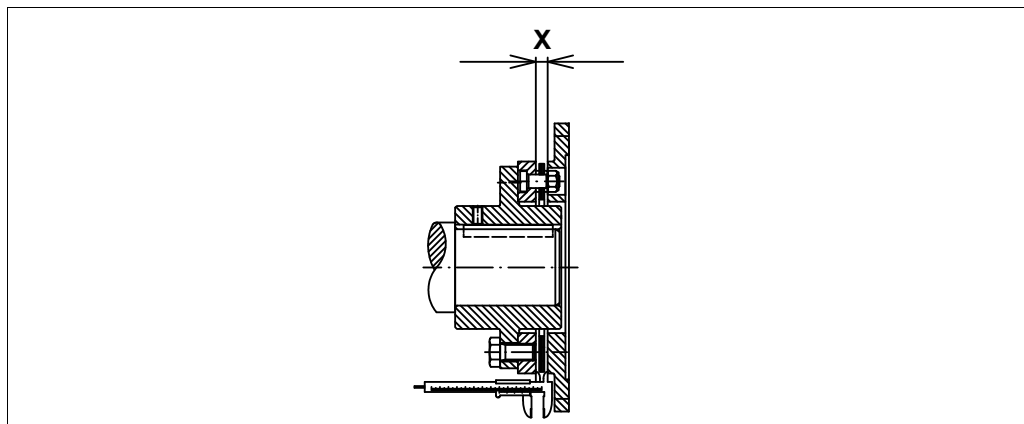

Fig. 16
- Mount disk pack to the relevant hub, observe tightening torque of screws (items 1935 and 1975)!
- The disk packs need to be prestressed to a block using a locking device. Do not fall below the reference dimensions **X** (**Fig. 16**).